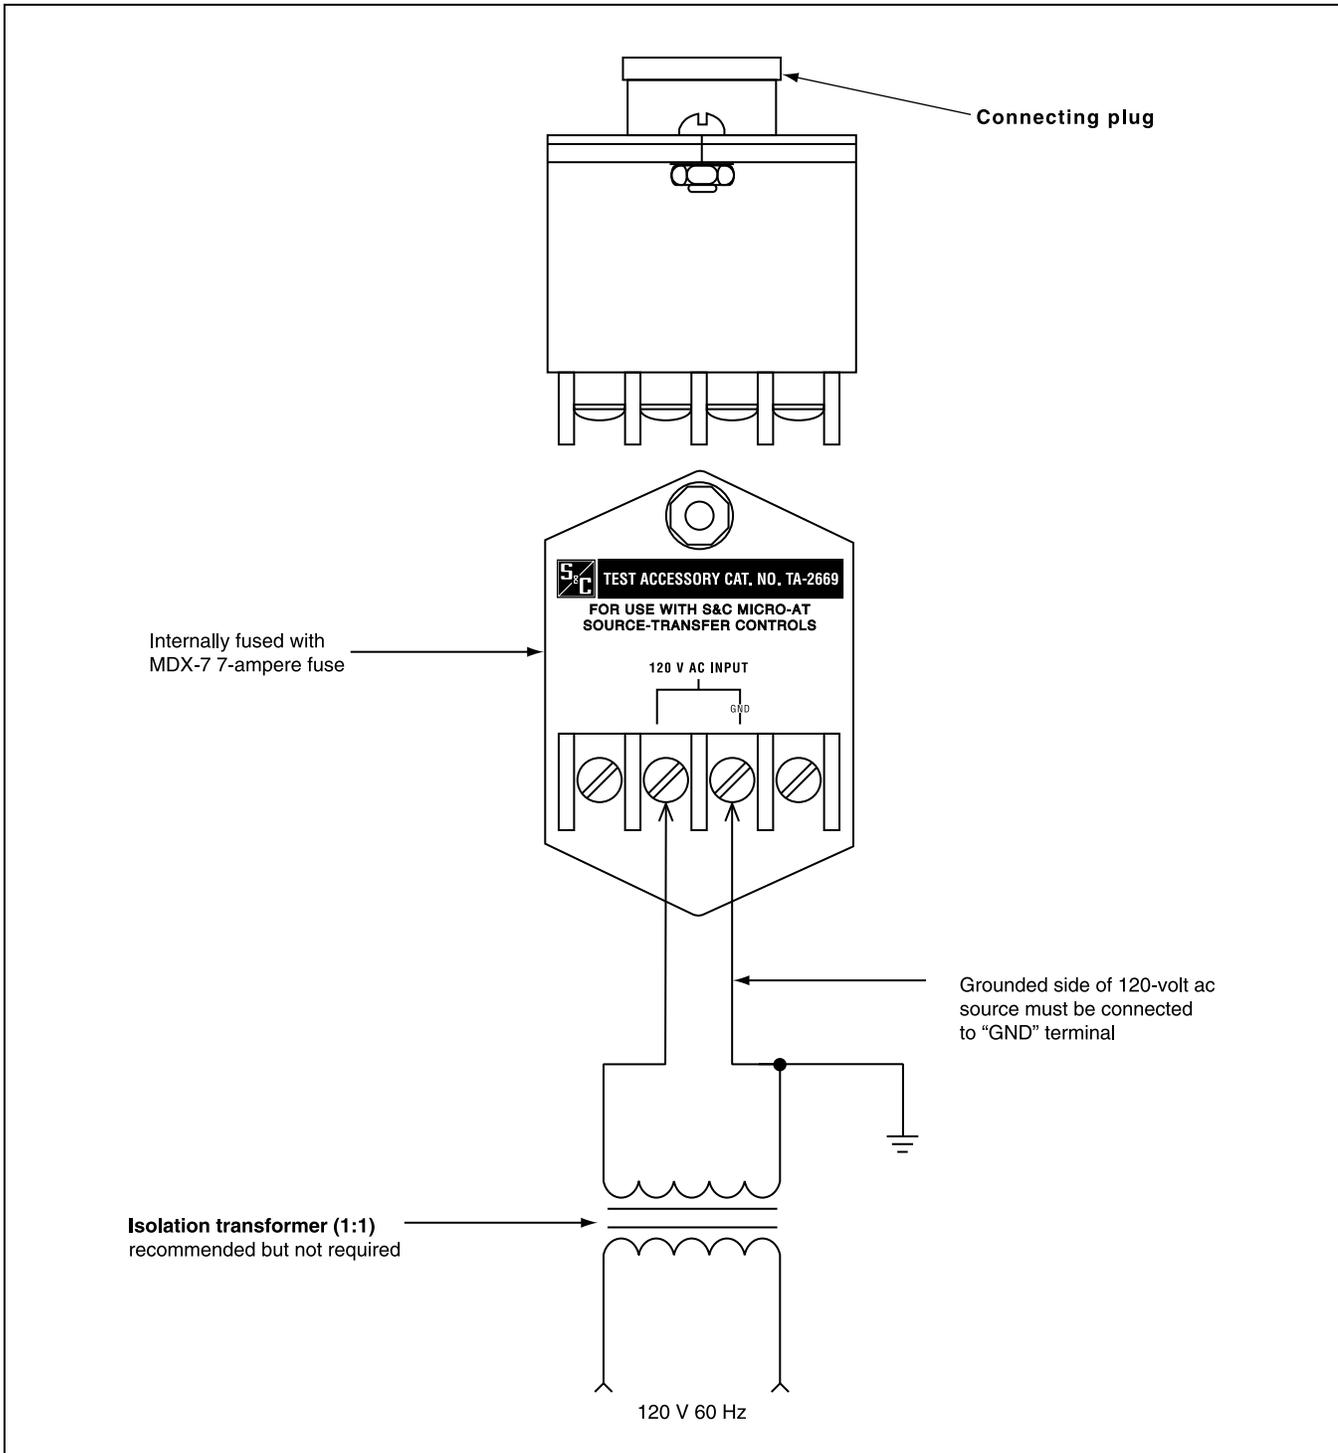

Figure 1. Test accessory connection diagram.
The S&C Test Accessory consists of a module with an integral connecting plug for attachment to the source-transfer control input receptacle, a terminal board for connection of the 120-Vac source, and an internal fuse for protection of the source-transfer control input circuits. See Figure 1 on page 6.
- STEP 6.** Make up the 120-Vac test-circuit connections shown in Figure 1 on page 6. The grounded side of the voltage source must be connected to the test accessory terminal marked “GND.” Otherwise, secondary fuses for components such as switch operators will be in the grounded instead of the ungrounded side of the 120-Vac source.
- STEP 6.** Make up the 120-Vac test-circuit connections shown in Figure 1 on page 6. The grounded side of the voltage source must be connected to the test accessory terminal marked “GND.” Otherwise, the source-transfer control will not function.
- STEP 5.** Make the 120-Vac test-circuit connections shown in Figure 1 on page 6. If an isolation transformer is used, it must be rated for at least 1 kVA to provide adequate power for operation. The grounded side of the voltage source must be connected to the test accessory terminal marked “GND.” Otherwise, the source-transfer control will not function. Then, energize the 120-Vac source.